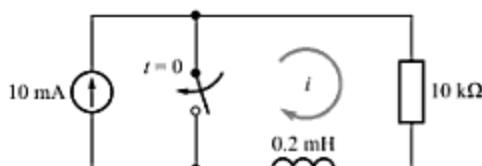

Fig. E-18
- E-23.** A current source is placed in series with a resistor and an inductor, as shown in Fig. E-18. During this period, the switch is open. The switch is closed at $t = 0 \text{ s}$, so that the circuit is separated into two independent loops that share a common short circuit but do not interact. Find the current in the right-hand loop after the switch closes.